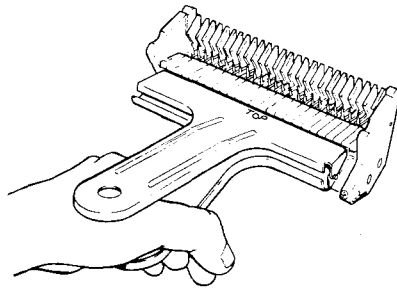

Fig. 55—Cover removal tool popping cover.
2. Squeeze handles and cover will be "popped" free. See Figure 55.